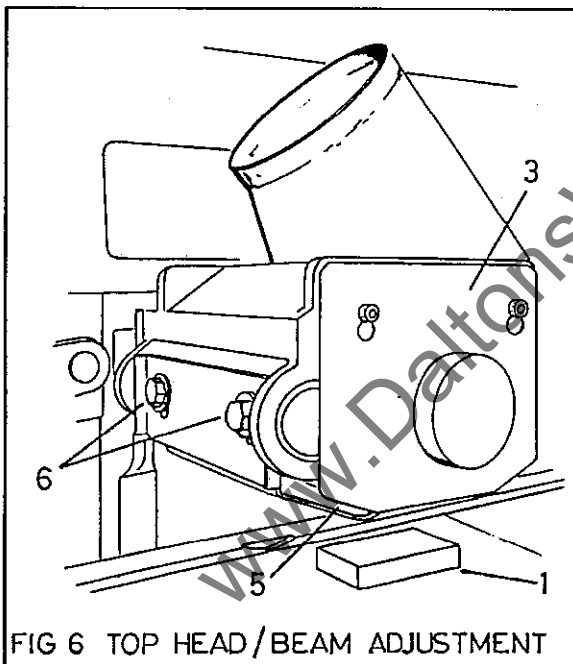
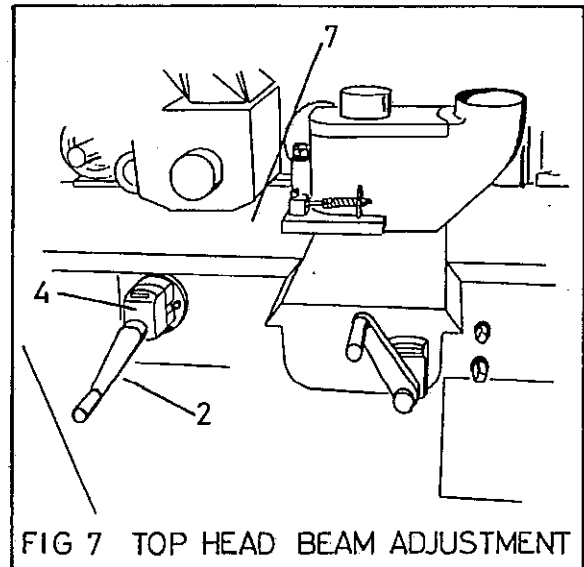

FIG 6 TOP HEAD/BEAM ADJUSTMENT
FIG 7 TOP HEAD BEAM ADJUSTMENT
When the powered top head/beam is fitted it should be set at the same time. Ensure all other heads, fences, feed rollers, etc, have been set before passing timber through. Near side head guide (8) and top head pressure (Fig 6 item (5)) should be adjusted clear of the timber to be passed through.
- 4) Slacken off the side guide screw (7) and using the test piece between fence (9) and guide (8) set the guide to exert a very light pressure on the timber.
Top Head/Beam Adjustment (Fig 6, Fig 7)